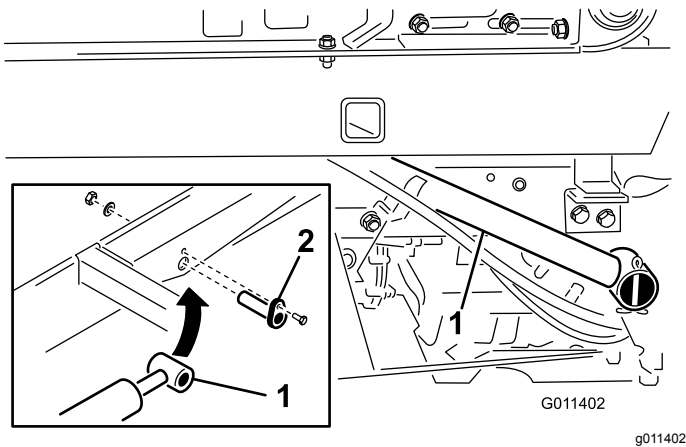

Figure 11
1. Secure each lift cylinder rod end to topdresser base with a cylinder pin (Figure 11).
2. Secure each cylinder pin to the topdresser base with a cap screw (1/4 x 3/4 inch), a flat washer, and a nut (Figure 11).